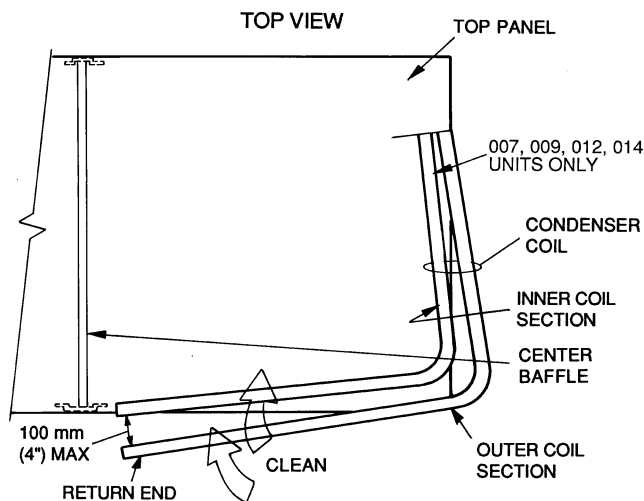

Fig. 40 — Separating Coil Sections
5. Remove fastener holding coil sections together at return end of condenser coil. Carefully separate the outer coil section 75 to 100 mm (3 to 4 in.) from the inner coil section. See Fig. 40.